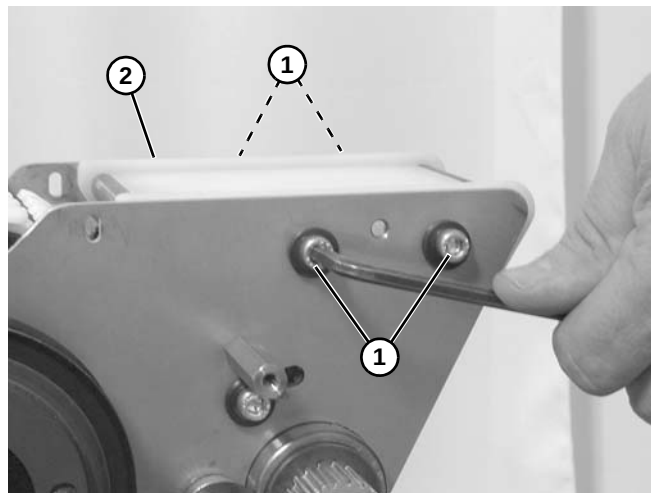

Figure 108
9. Remove four socket head screws (**Figure 108, item 1**) holding wear bar assembly (**Figure 108, item 2**) onto power transfer.